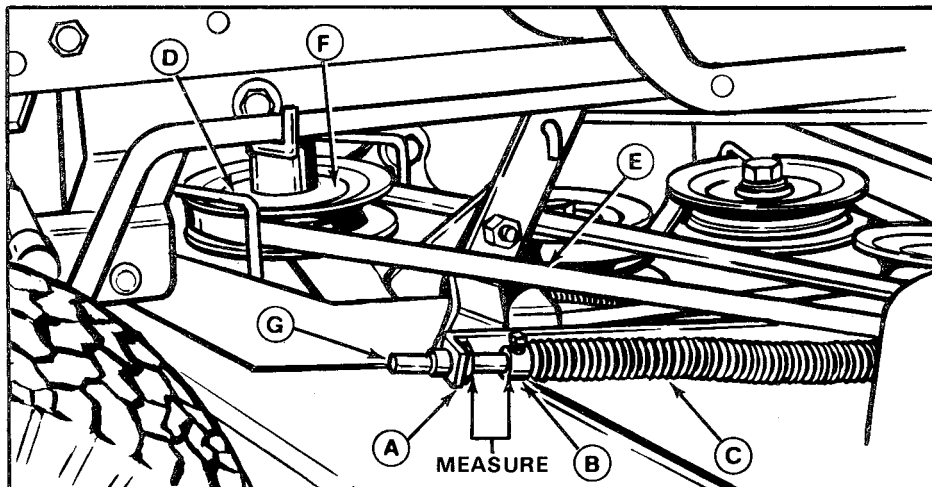
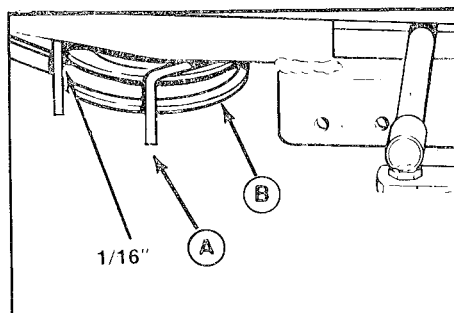

Figure 34. Mower Drive Belt Tension Adjustment - 42" Mower Shown.
Figure 35. Right Hand Belt Stop, PTO Pulley - 42" Mower
2. Measure the distance between the PTO rod guide (A, figure 34) and the set collar (B). For the 36" mower the measurement should be $\frac{3}{8}$ to $\frac{1}{2}$ inch (10 to 13 mm). For the 42" mower the measurement should be one inch (25.4 mm).
4. Loosen the setscrew in the set collar (B). Move the rod (G) forward to increase gap, or backward to decrease gap. Retighten the setscrew.
There are two belt stops at the PTO pulley; one on the left (figure 34) and one on the right (figure 35 or 36). With the PTO lever engaged, measure the distance between the belt stop and belt. There should be 1/16 inch (1.5 mm) clearance between each belt stop and the belt. To adjust a belt stop, loosen its mounting capscrew, move the belt stop, and retighten the capscrew. Recheck the measurement. If a 1/16 inch clearance cannot be achieved without touching the pulley, place belt stop as close as possible without touching pulley.